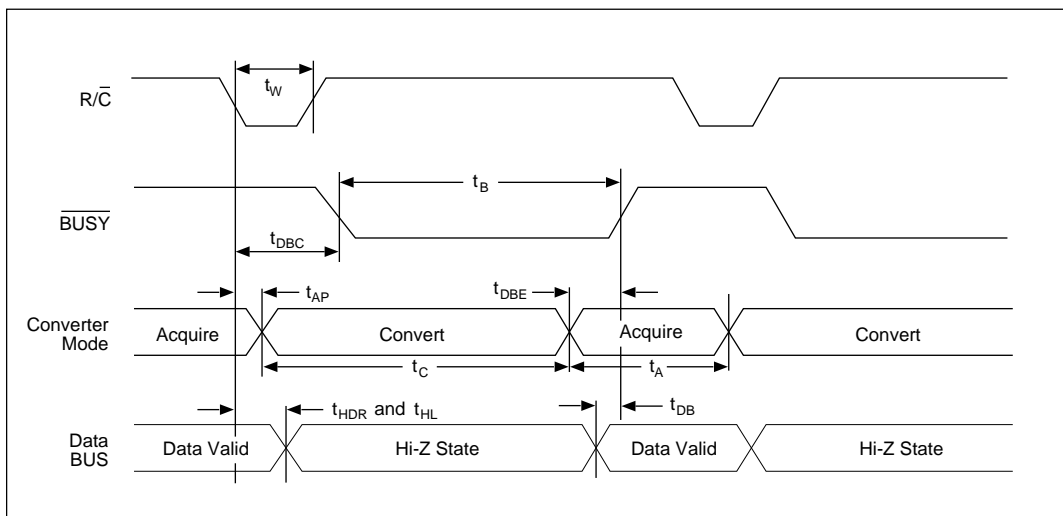

Figure 5. Convert Mode Timing —  $\overline{R/C}$  Pulse LOW, Outputs Enabled After Conversion
*Figure 5* illustrates timing when conversion is initiated by an R/C pulse which goes LOW and returns HIGH during the conversion. In this case (Convert Mode), the three-state outputs go into the Hi-Z state in response to the falling edge of R/C, and are enabled for external access to the data after completion of the conversion.